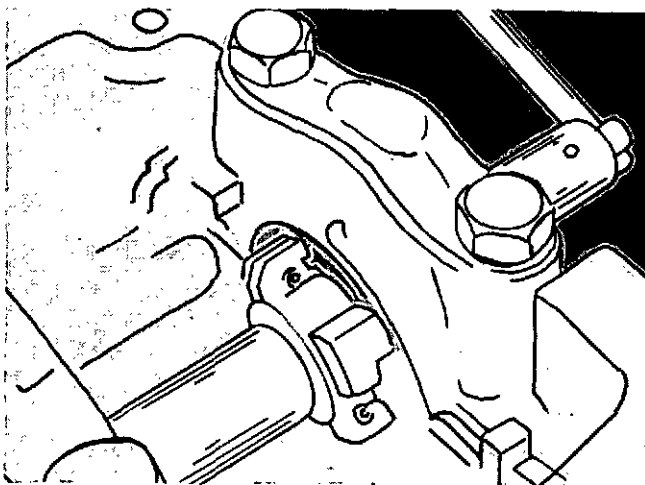

Fig. 1-48. Install The Cutter Holder.
7. Install the cutter holder. Adjust the cutting tool so it will cut the total surface for the thrust bearing, Fig. 1-48. The tool must be